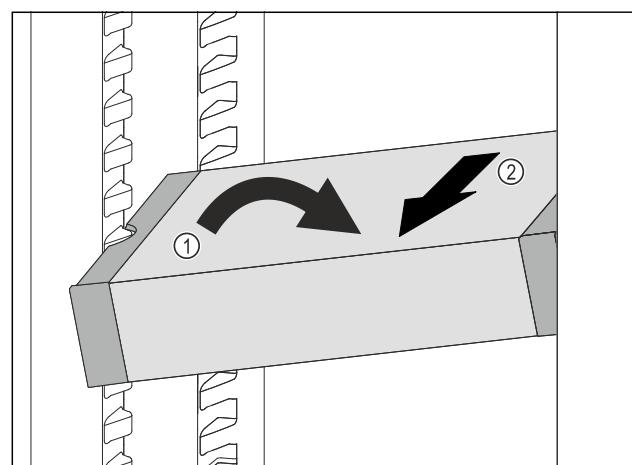

Fig. 131
- Set VarioSafe in refrigerator compartment at an angle. Fig. 131 (1)
- Take VarioSafe out to the front. Fig. 131 (2)